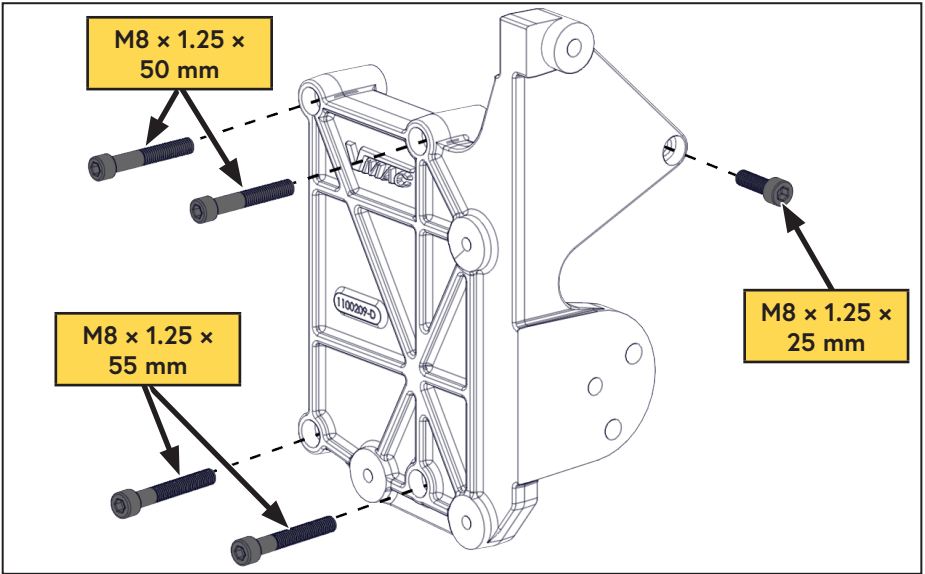

Figure 11 — Main bracket mounting fasteners
- Apply Loctite 242 (blue) to the 5 supplied fasteners and install the VMAC main bracket onto the engine (Figure 11).